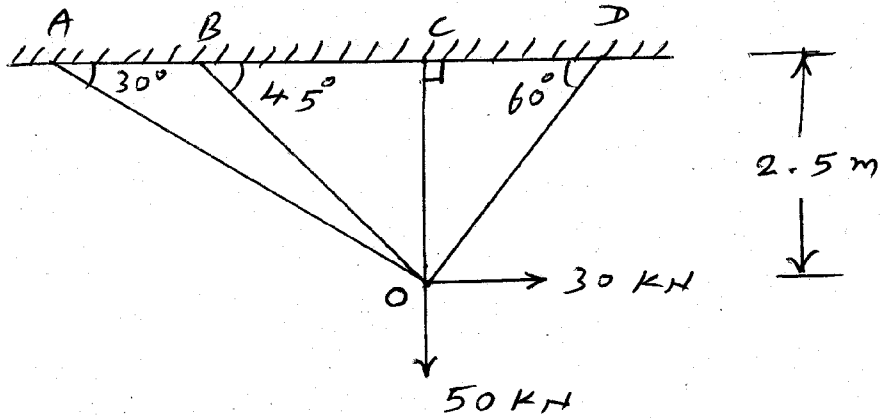

Fig.2
- (b) Analyse the pin-jointed truss shown in figure 2 by stiffness matrix method. Take area of cross section for all members = 1000 mm^2 and modulus of elasticity $E = 200 \text{ kN/mm}^2$. 10